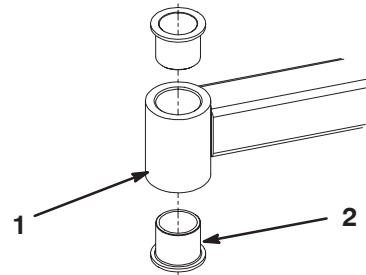

Figure 30
- Insert a pin punch into the top or bottom of the mounting tube and drive the bushing out of the tube (Fig. 30). Also drive the other bushing out of the tube. Clean the inside of the tubes to remove dirt.